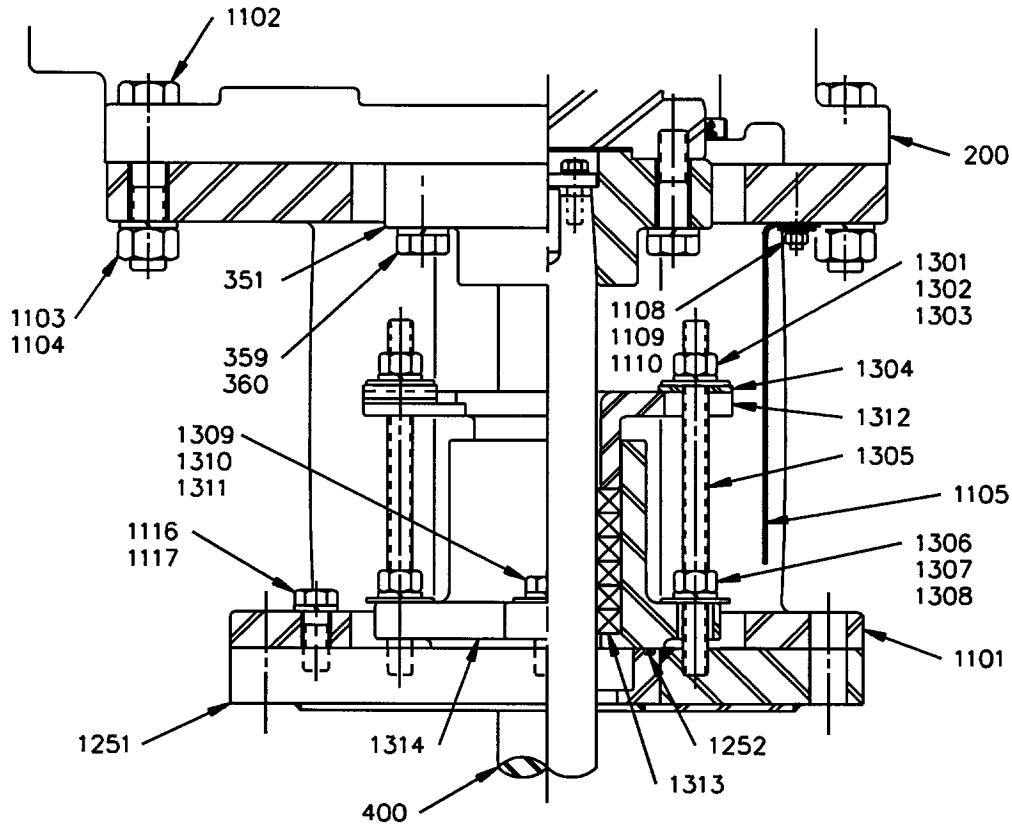

Figure 4: 6-Ring Stuffing Box
8. For GTA units (*Refer to Figure 4, page 12*): Place o-ring [1252] into the groove in the mounting flange [1251]. Install packing housing [1314] and packing rings [1313]. Stagger the packing split. Seat each packing ring as it is installed. Install the two threaded studs [1305] at 180 degrees from each other. Install nuts, lockwashers and flatwashers [1306, 1307, 1308] onto studs. Install two bolts, lockwashers and flatwashers [1309, 1310, 1311]. *Do not tighten bolts at this time.*
17. Model GTA: Install split packing gland [1312] over threaded studs [1305] with gland clamps [1304], flatwashers [1303], lockwashers [1302], and hex adjusting nuts [1301]. Refer to *Figure 4, page 12*. The split packing gland must be square with the packing housing [1314]. Tighten bolts [1309] and nuts [1306]. Torque to the value shown in *Table 6*. Tighten the hex adjusting nuts.